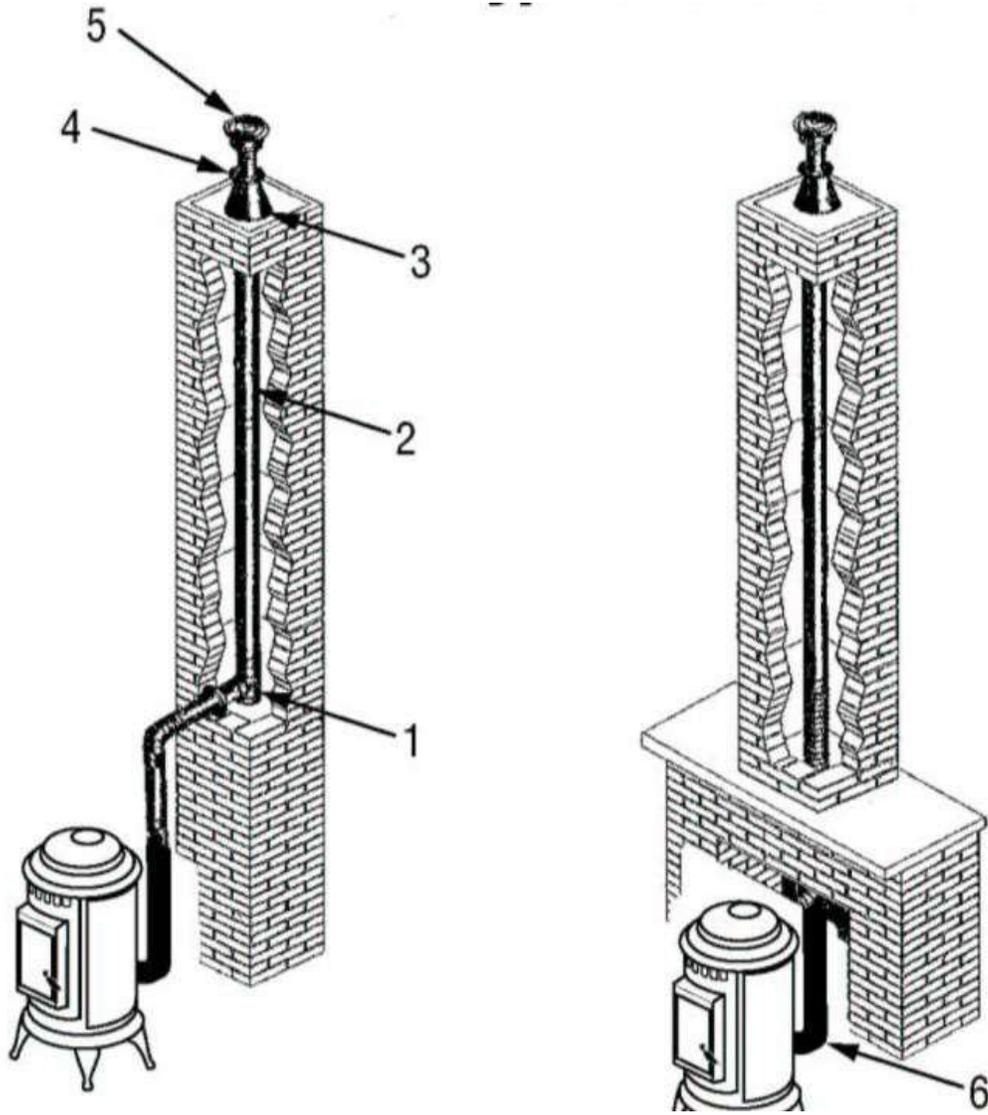

FIGURE 5
7. Keep front door of appliance thirty-six (36) inches from combustibles (drapery, furniture).
9. All installations have a recommended maximum of two 90 degree elbows including the tee. Basement and installations into existing chimneys (see **Figure 5**) one additional elbow is allowed with minimum 12' vertical rise. NOTE - two 45 degree elbows = one 90 degree elbow.
10. A **MAXIMUM HORIZONTAL RUN** of two feet is recommended. Installations into basements and existing chimneys (see **Figure 5**) allow for an additional two foot horizontal run totaling four feet with a minimum of twelve foot vertical rise. Additionally, a continuous horizontal run of more than two feet should incorporate a  $\frac{1}{4}$ " per foot vertical rise for proper drafting.